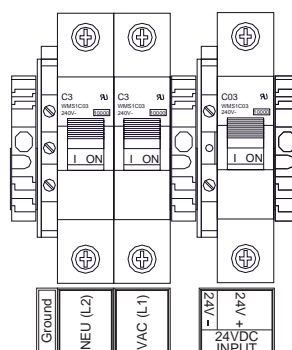

Figure 14 Typical AC and DC Input Connections
5. If applicable, connect a 24VDC Battery Backup or Auxiliary 24V source to the Circuit Breaker labeled “24VDC INPUT” (24V+ and 24V-) (Figure 14).
6. Connect 110-220VAC input to the Circuit Breakers labeled “VAC (L1)” and labeled “NEU (L2)”. Connect external ground to the Green/Yellow terminal labeled “GROUND” (Figure 14). The power supply is able to accept AC input voltages from 100 to 240VAC at 50 or 60Hz.